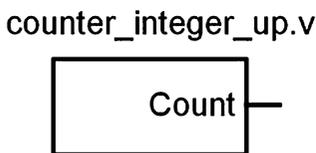

Fig. 5.6
5.2.10 Design a Verilog model for a counter using a for loop with an output type of integer. Figure 5.6 shows the block diagram for the module definition. The counter should increment from 0 to 31 and then start over. Use delay in your loop to update the counter value every 10 ns. Consider using the loop variable of the for loop to generate your counter value.